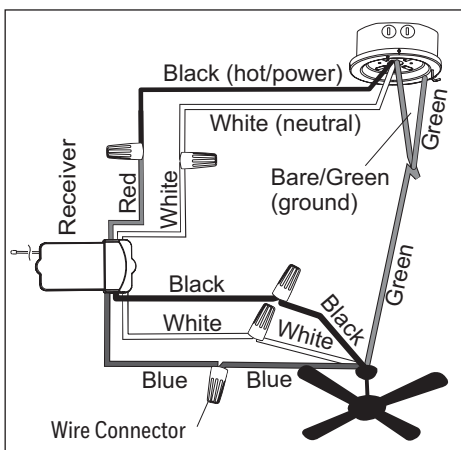

Figure 4.1
1. Secure all wiring connections together with wire connector from hardware bag and the wire connectors from remote pack according to the diagram and these steps (Figure 4.1):